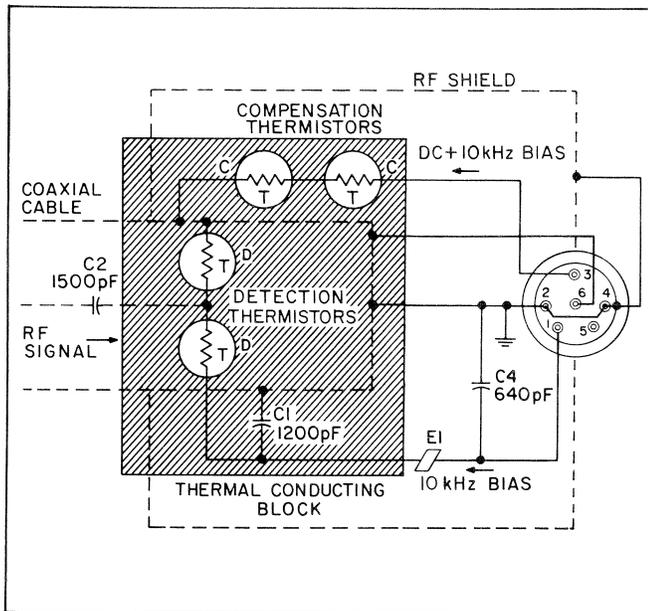

Figure 5. Schematic Diagram of a Model 478A Thermistor Mount when Connected to a 431 Power Meter
29. Note that some 10-kHz bias signal is coupled into the RF transmission system by C2 (Figure 5). If the RF source output impedance at 10 kHz is 15K ohms or greater, 10-kHz bias voltage is typically 1.3 V RMS and could equal 1.5 V RMS. For an RF source output impedance of 50 ohms at 10 kHz, bias signal voltage is typically 5 mV RMS.
49. Two matched series thermistors are mounted on a common thermal conducting block, represented by the shaded rectangle in Figure 5. One pair, marked "D" for detection, is mounted between the end of a coaxial cable and cylindrical cavity. These thermistors are exposed to incoming RF power which heats them, lowering their resistance. The other pair, marked "C" for compensation and situated immediately outside the cavity, is completely shielded from RF. With the 478A attached to the 431 Power Meter, the detection thermistors are part of the metering circuit.
54. Under normal operation, the total power supplied to heat thermistor pair "D" (see Figure 5) consists of 1) RF signal, 2) 10 kHz bias, 3) heat from the environment. The total power supplied to heat thermistor pair "C" consists of: 1) dc bias, 2) an equal amount of 10 kHz bias, and 3) heat from the same environment. As "D" and "C" are matched thermally, the total amounts of heat applied to reduce their series resistance equally must be equal.